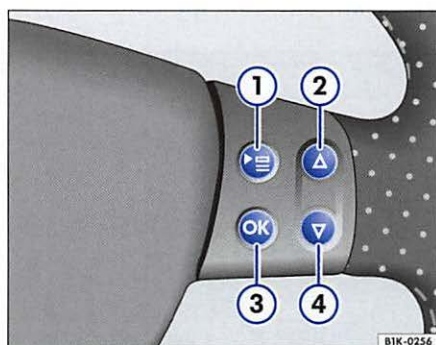

Fig. 16 Multifunction steering wheel: right side
- Press the ⇒ fig. 16 ① button on the multi-function steering wheel until the **Compass** menu is displayed.